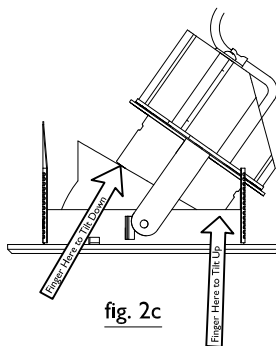

fig. 2c
2. Use index finger and reach up inside of Trim Section aperture and press against edge of optic in assembly to tilt light source (fig. 2c). Adjust as desired.